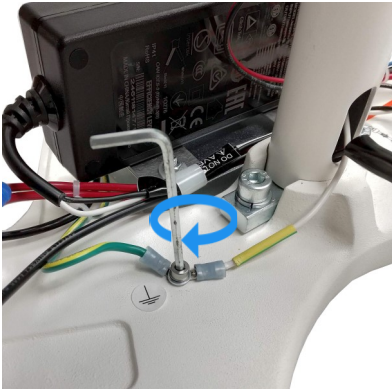

Figure 11A: Ground connections.
- Align the green and yellow ground ring terminal coming out of the post with the green and yellow ground ring already connected to the base. Align them both with the same hole on the base as before, and re-fasten in the same location. See Figure 11A.